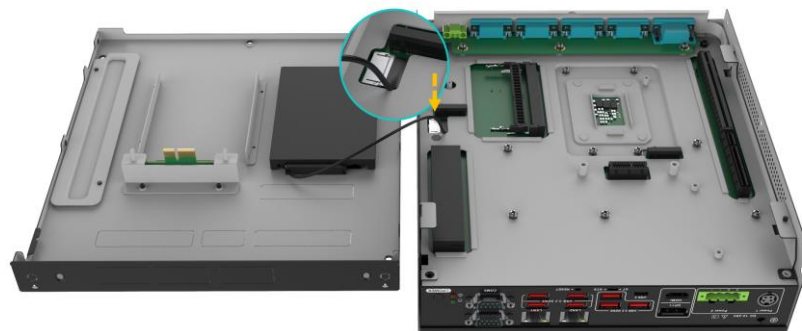

Figure 3-11: Plug in the motherboard cable
Step 3: Move the back cover close to the machine and plug the SATA cable into the motherboard (**Figure 3-11**).